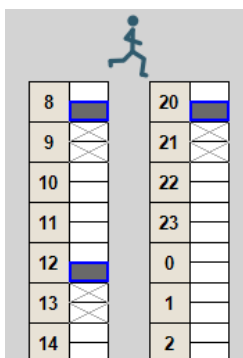

Figure 14 Stimulation Session Times while Patient is Awake, Example is for stimulation sessions at 08:30, 12:30, and 20:30
NOTE: The Programmer automatically disables certain parameters and icons based upon values of other parameters or states of other icons. For an icon example, the *Program* icon will not be active unless a parameter was changed. For a parameter example, the *Stimulation Session Timing – Awake* will not allow for programming two stimulation sessions immediately adjacent to each other (see Figure 14 below).
1. Click on the desired stimulation time boxes for the patient. The boxes fill, followed by an “X” in boxes below indicating that therapy is not possible at those times (Figure 14, abbreviated).